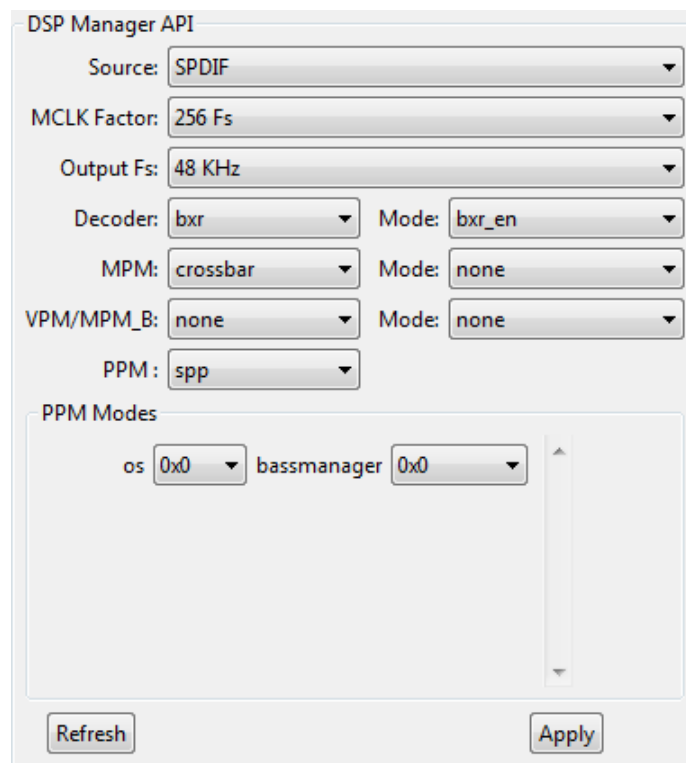

Figure 9-5. DSP API Manager Input Source
6. Select the DSP Manager API Input Source by changing the Source Combo Box as shown in Figure 9-5.